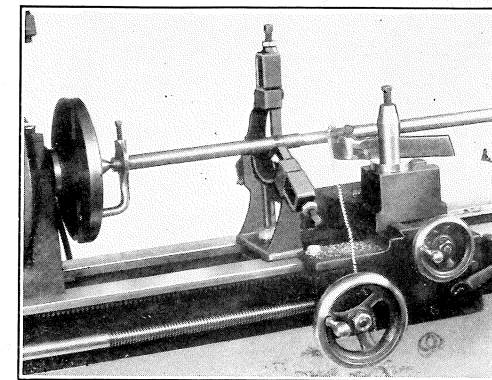

Fig. 8
**TURNING LONG WORK—The Steady Rest.** When turning long work, especially of small diameter, it is necessary to support it along its length. For this purpose a steady rest is essential. (See Figs. 8 and 26). Before placing this steady rest in position, locate the work between centers and turn lightly a concentric spot where the rest is to be placed. Now locate the steady rest, clamping it to the bed, and turn the screws down until they just touch the work. **Make sure there is no excessive pressure.** Too great a pressure on the jaws causes heating and resultant scoring of the work.